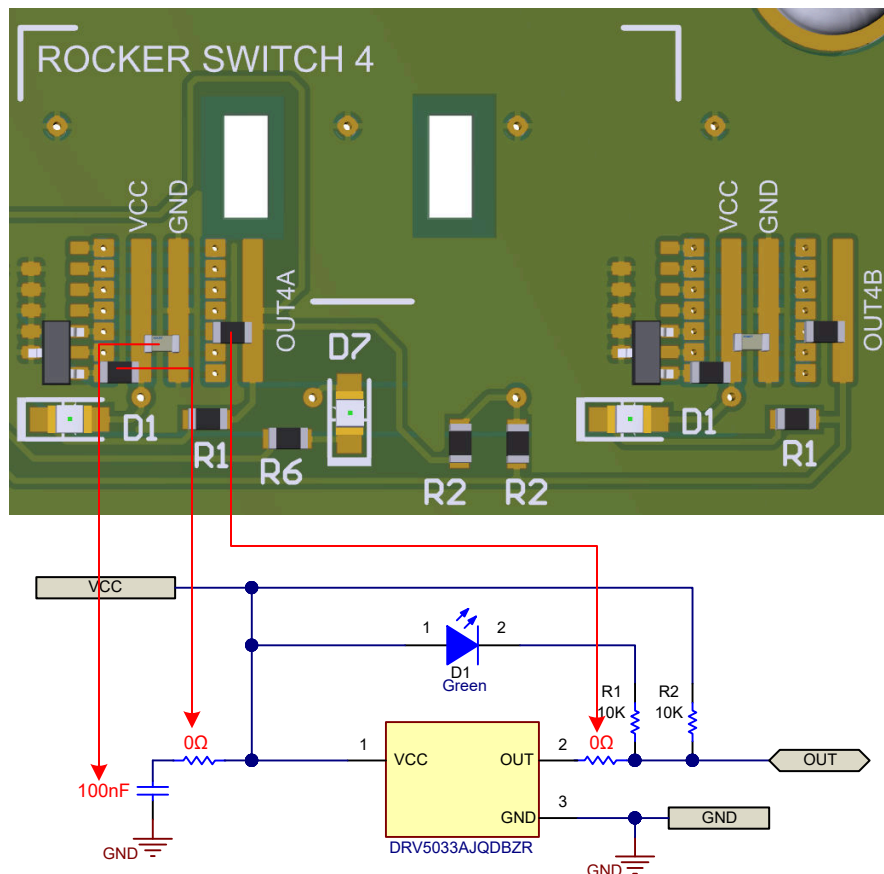

Figure 3-5. Rocker 4 VCC and GND Connections
3. As indicated in Figure 3-5, 0- $\Omega$  resistors, wire, or solder bridges should be used to connect the device VCC pad to the board VCC as well as the device output to the board OUT4x pad.
4. As indicated in Figure 3-5, a decoupling cap of at least 0.1  $\mu\text{F}$  should be used between the VCC pads and GND pads.